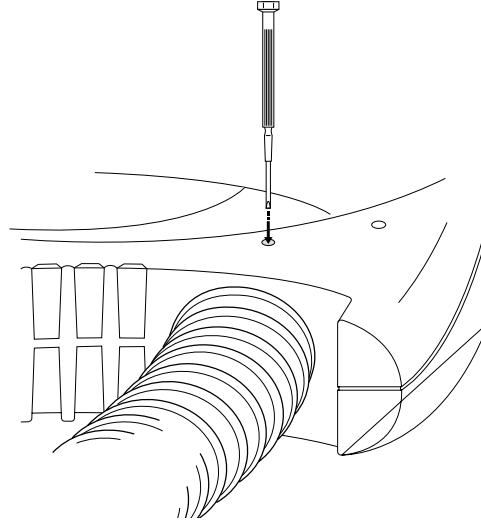

Figure 8. Calibration access hole to adjust pot.
5. Insert a 2 mm screwdriver into the calibration access hole approximately 1/2 inch (see Figure 8). Turn pot until the steady state temperature reading is 40°C on the thermocouple. Wait at least 5 minutes to ensure steady state.